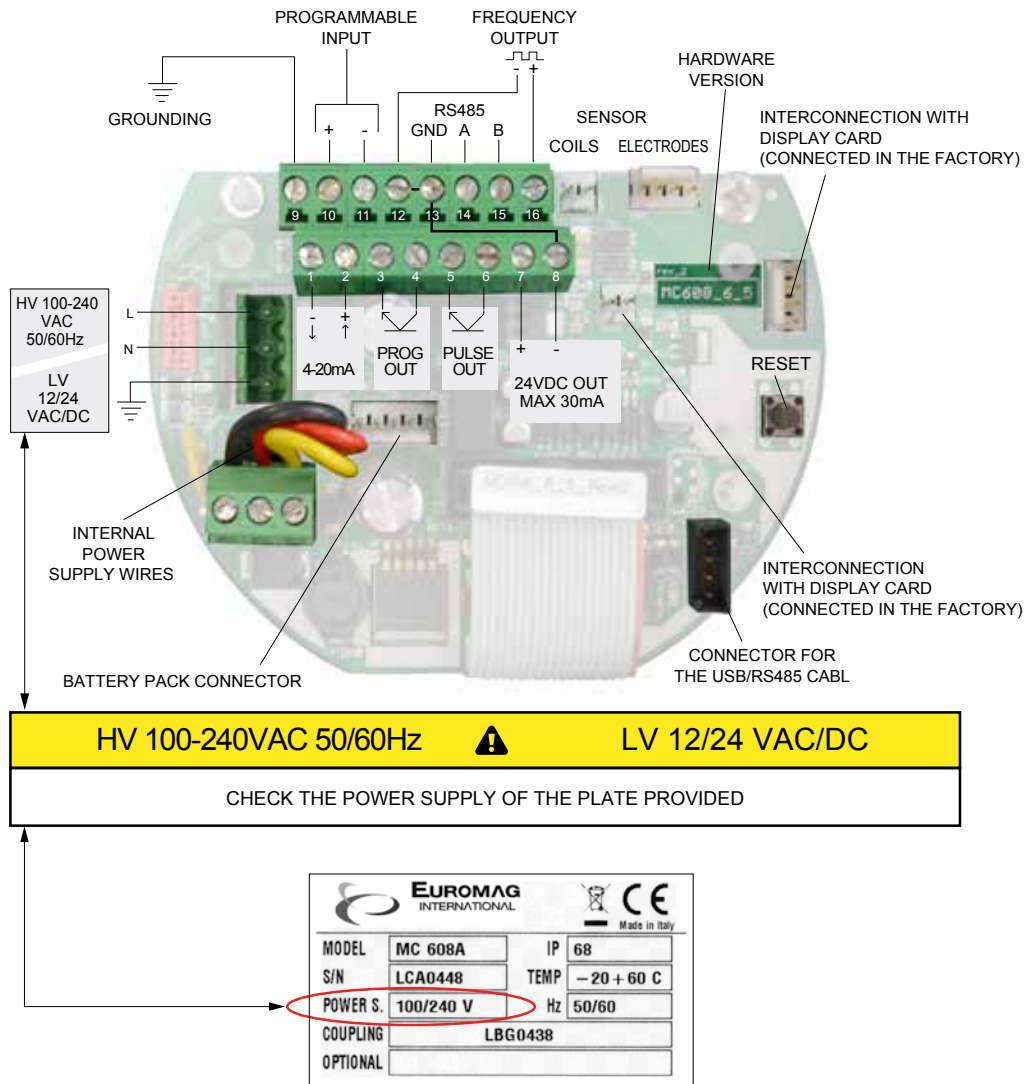

Fig. 23 Electrical Wiring
-  In order to properly connect electrical elements of the MC608 converter to the power supply, and to the junction box (in REMOTE version), please refer to the wiring diagram shown in paragraph 4.3.1 (Fig. 23).